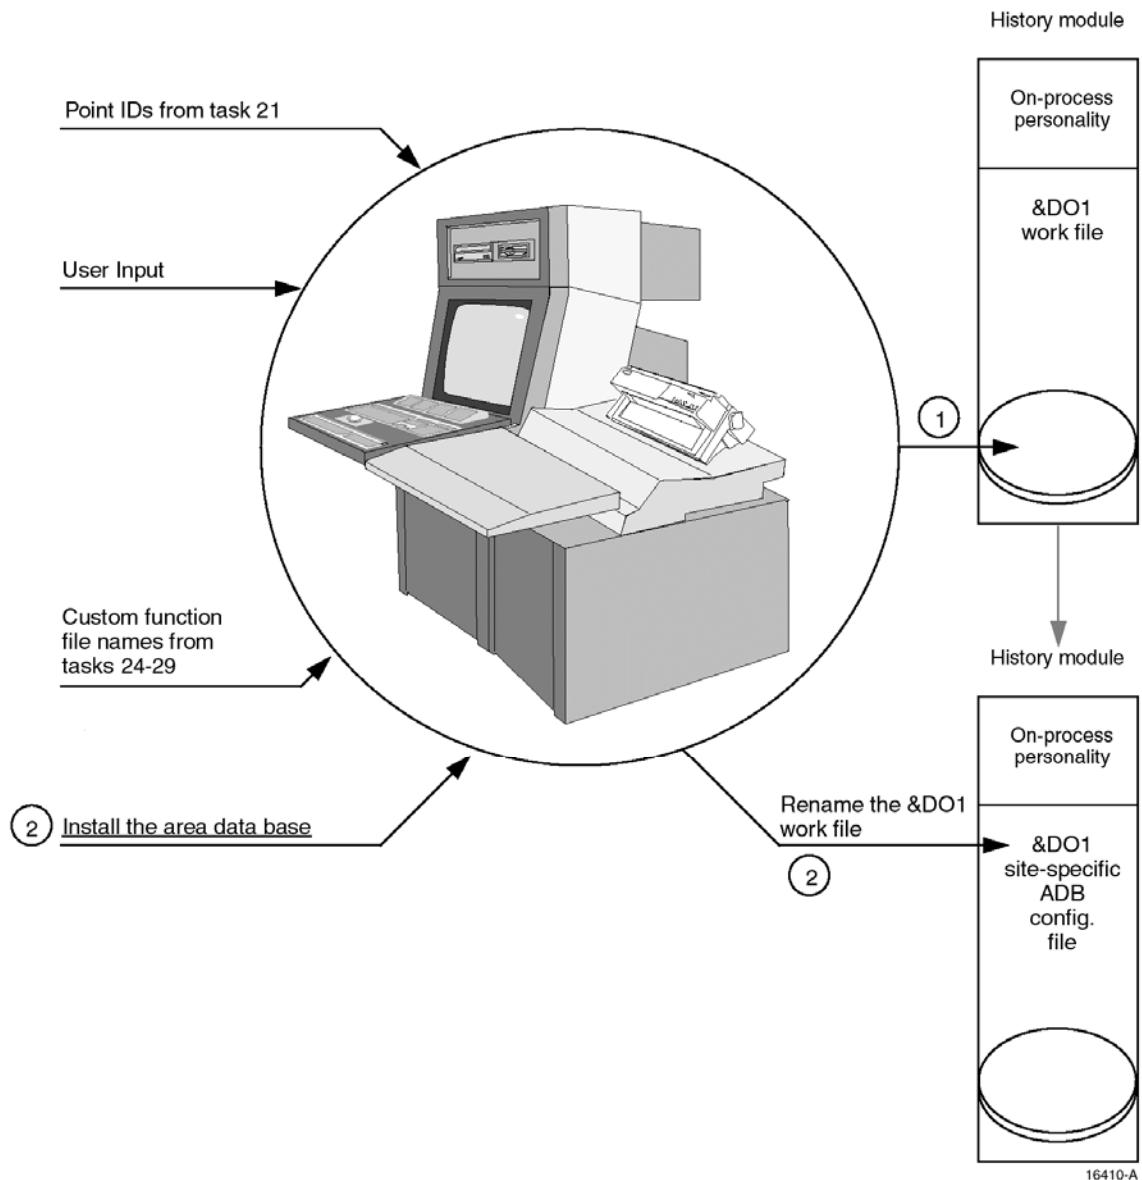

Figure 13 Build and Install the Area Database
Figure 13 shows a graphic representation of the Task (30) that must be performed to Build and Install the Area Database.